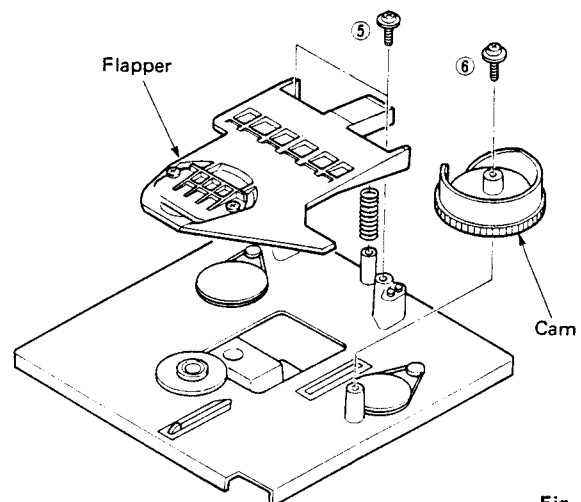

Fig. 5
- Remove 2 screws (⑤) fixing Flapper in Fig. 5 and then remove the Flapper.
- Remove screw (⑥) in Fig. 5 and then pull up the Cam.